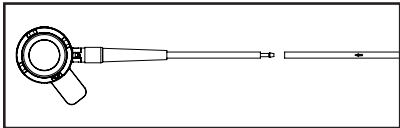

Figure 1. Band tubing and port tubing connection
6. After the band is placed, the band tubing is brought outside the abdomen. The tubing may be shortened to tailor the position of the access port to the patient while avoiding tension between the port and the band. Remove the end plug from the band tubing. Then, push the access port tubing with stainless steel connector onto the band tubing until it is flush against the band tubing (**Figure 1**).